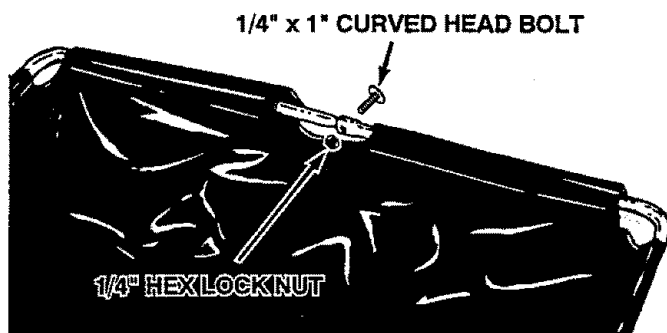

FIGURE 10
- Fasten the upper hopper tubes together using a 1/4" x 1" curved head bolt and a 1/4" hex lock nut. See figure 10.